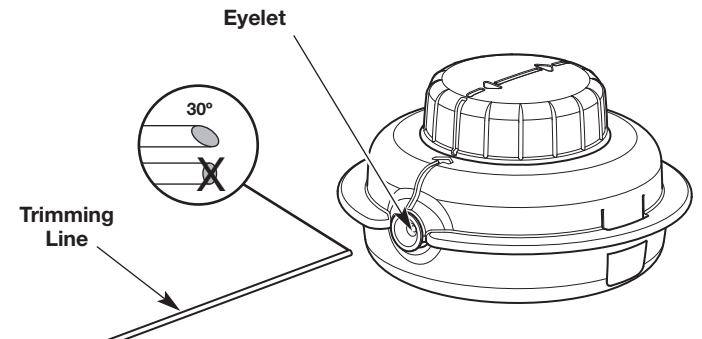

Fig. 21
- Cut two 10-foot (3.0 m) lengths of new trimming line. Cut one end of each line at a 30 degree angle (Fig. 21).
- Insert one of the lines into an eyelet on the cutting head (Fig. 21). Use the angled end and push the line in about 3 inches (7.5 cm). Repeat this process with the other line and remaining eyelet.